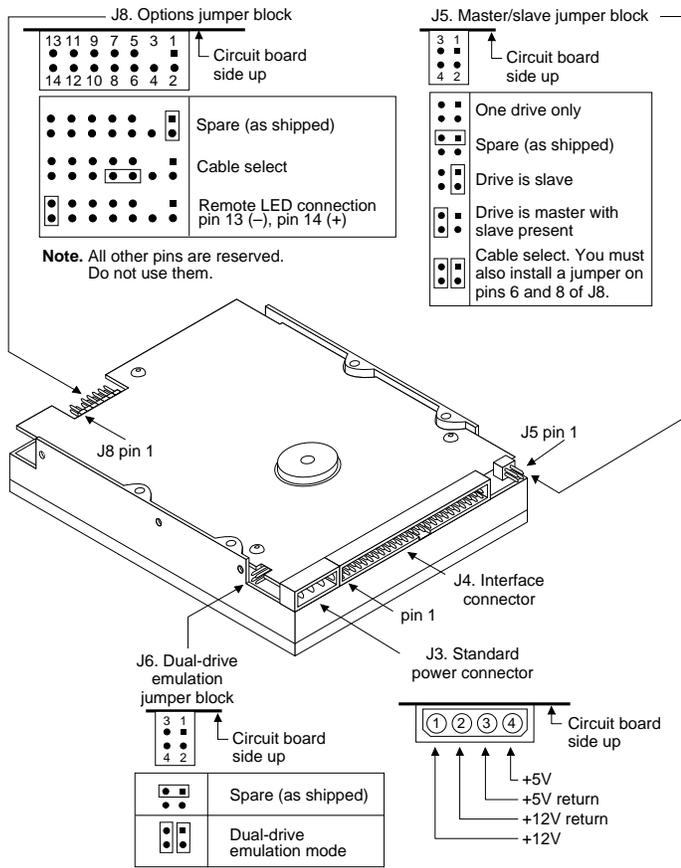

Figure 1. Jumpers and connectors
You must configure the drive to operate in your computer system. You can configure it for single-drive operation, as one drive in a two-drive operation or for dual-drive emulation. You can also configure it for computers that use cable select. Figure 1 shows where the connectors and jumper blocks are located on the drive. It includes diagrams showing how to install the jumpers for the various configurations. A spare jumper is available on each of the three jumper blocks. The jumpers are 0.100-inch connectors. Use Seagate part number 10562-001 or equivalent for replacements.
2. Install master/slave jumpers. The master/slave jumper block (J5)—see Figure 1—is used to configure the drive as master or slave or for cable-select. Cable-select may also be selected using the options jumper block (J8).
This section refers to Figure 1 on page 6 for the connector locations.
Attach one end of the cable to the drive's 40-pin ATA interface connector. Align the cable's edge-stripe with pin 1 of the drive shown in Figure 1 on page 6. Attach the other end of the cable to the host adapter card or to the hard-drive connector located on the motherboard. Align the cable's edge-stripe with pin 1 (see your system user's guide or host adapter user's guide).
The interface cable must be designed for two drives. Attach a cable connector to each drive's 40-pin ATA interface connector. Align the cable's edge-stripe with pin 1 of the drive shown in Figure 1. Attach the other end of the cable to the host adapter card or to the hard-drive connector located on the motherboard. Align the cable's edge-stripe with pin 1 (see your system user's guide or host adapter user's guide). You can attach the drives in any order on the cable.